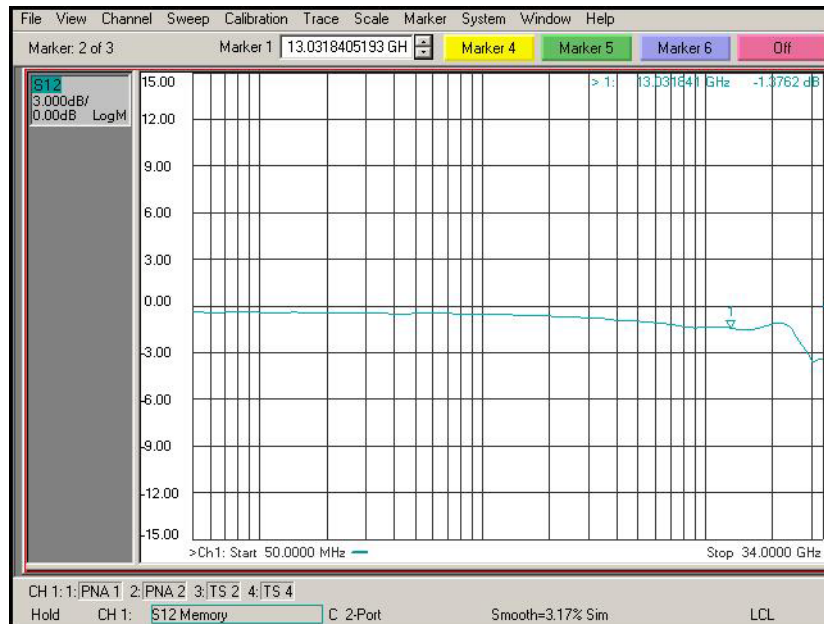

Figure 92 De-Embedded V_{in} Trace
- 10 Trigger the VNA to perform a single sweep. Press “Trigger” under Channel Setup, and then the green soft-key for “Single”. Display should look like **Figure 92** on page 111. If it looks noticeably different, the probe tip wires may not be making contact under the pincher.